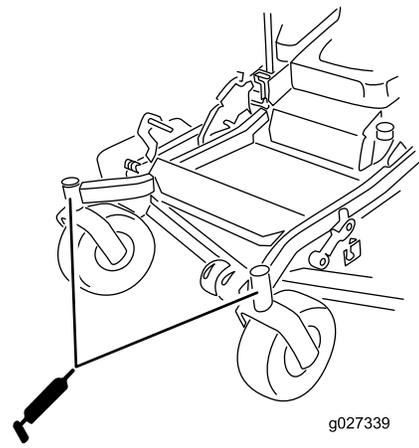

Figure 46
7. Grease the caster-wheel bearings (Figure 46).
6. Install the hex plug and dust cap (Figure 46).